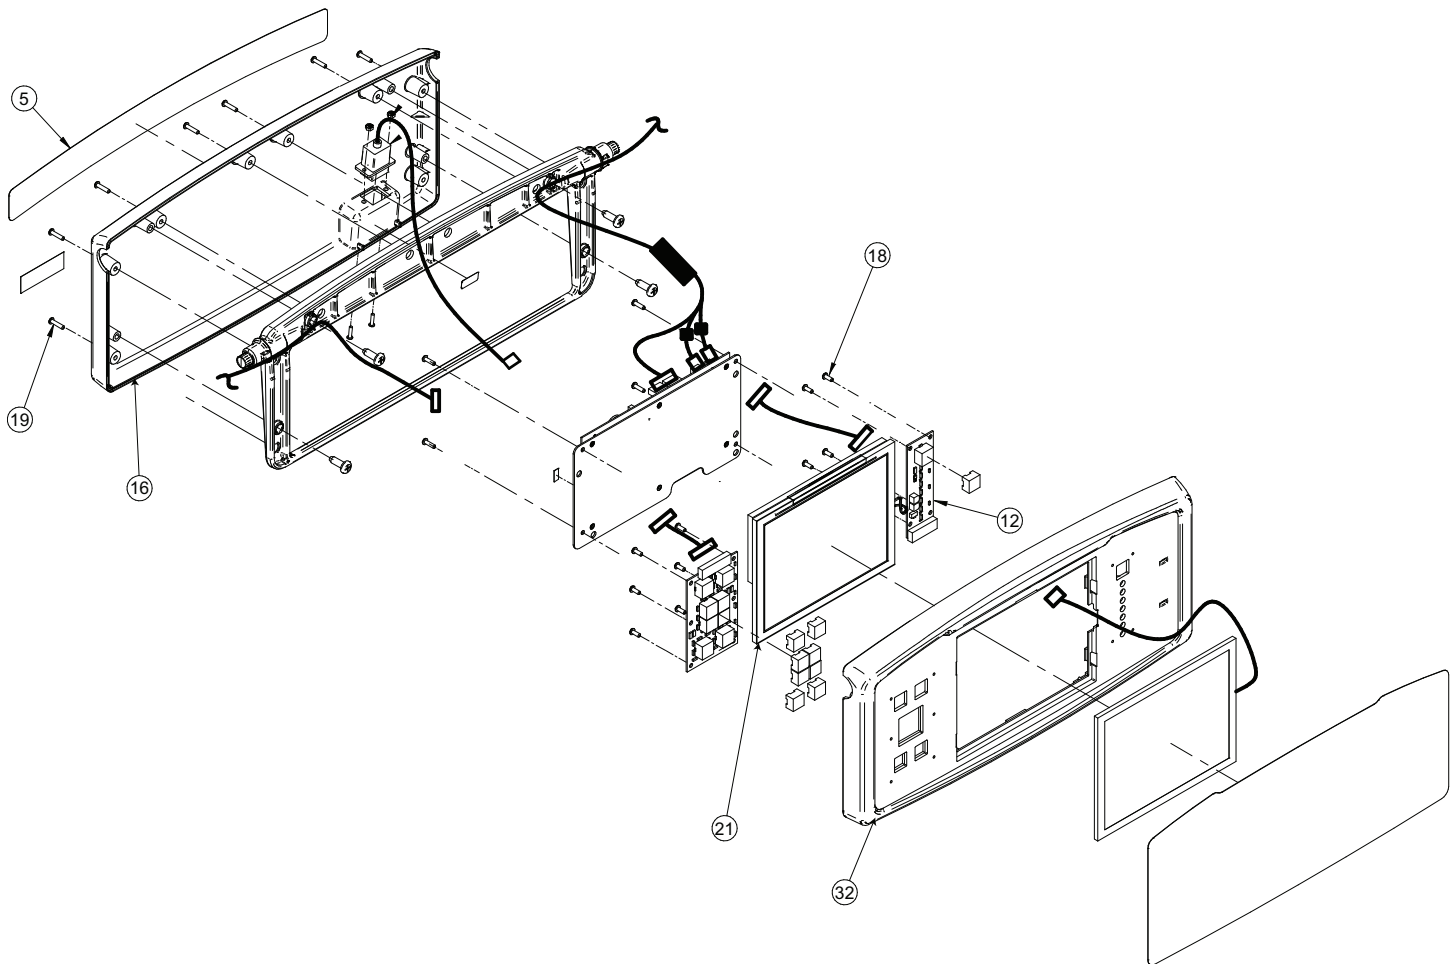

Figure 64 – Footboard assembly
2. Using a small slotted screwdriver, remove the fascia back foot control label (5) (Figure 64).
3. Using a #2 Phillips screwdriver, remove the six screws (19) that secure the front nurse panel (32) to the rear footboard control (16) (Figure 64). Save the screws.
5. Using a #2 Phillips short screwdriver, remove the two screws (19) from the bottom of the front nurse panel (32) (Figure 64). Save the screws.
10. Turn the LCD display up (21) (Figure 64).
12. Remove the display housing and unplug the two cables from the main menu board (12). Set the display assembly on a bench.
13. Using a #2 Phillips screwdriver, remove the four screws (18) that secure the main menu board (12) to the front nurse panel (32) (Figure 64). Save the screws.